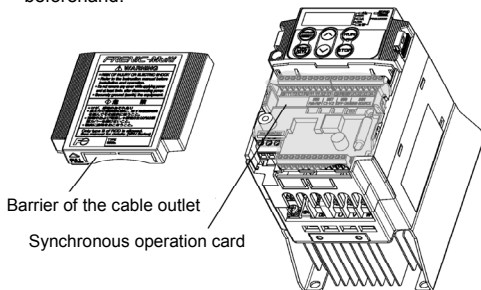

Figure 1.4
- (4) For inverters of 0.75 kW or below: Before reinstalling the terminal cover, cut off the barrier (see Figure 1.4) of the terminal cover using nippers or the like.
- (5) Reinstall the terminal cover, taking care not to pinch control signal lines.